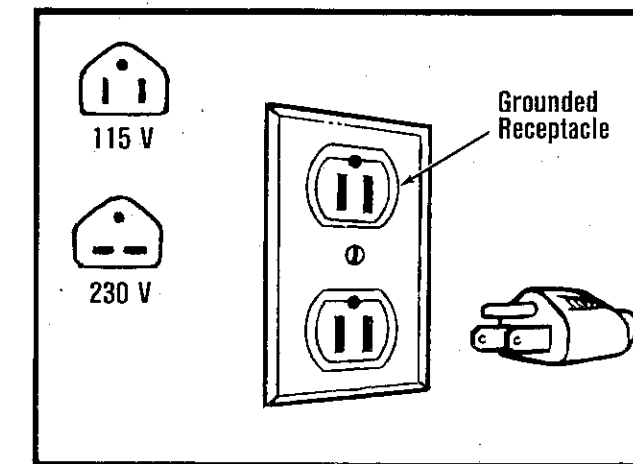

Figure 2. No. 200 Power Drive Grounding Instructions.
- 3. Ground Machine (Fig. 2).** This machine should be grounded while in use to protect the operator from electric shock. The machine is equipped with an approved three-conductor cord and three-prong grounding type plug to fit the proper grounding type receptacle. The green (or green and yellow) conductor in the cord is the grounding wire. Never connect the green (or green and yellow) wire to a live terminal. If your unit is for use on less than 150 volts, it has a 115V plug. If it is for use on 150 to 250 volts, it has a 230V plug.